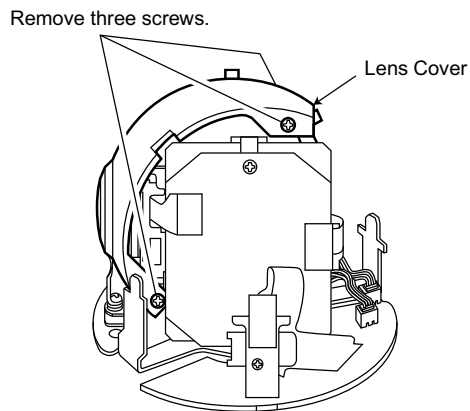

Fig. 2-5
- Referring to Fig. 2-5, remove three screws that secure the Lens Cover and remove the Lens Cover.